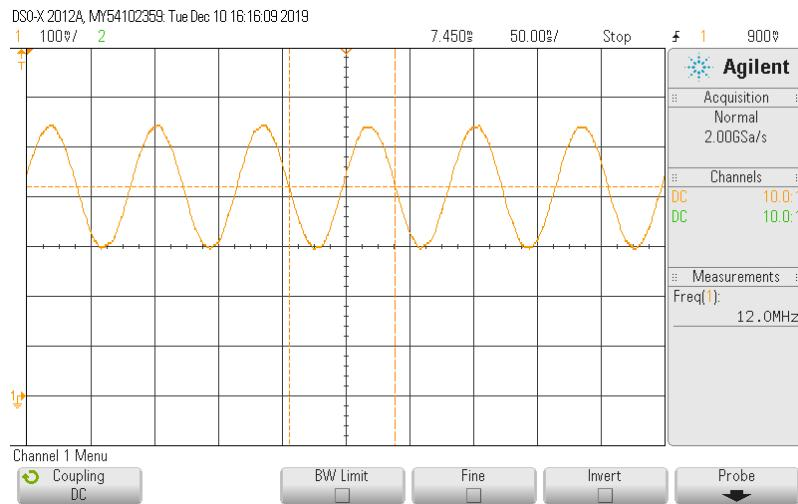

Figure 11.4: 12 MHz clock sine wave measured on the XOUT pin.
- Connect a scope pin to the XOUT pin. A 12 MHz sinewave should be visible, see Figure 11.4.